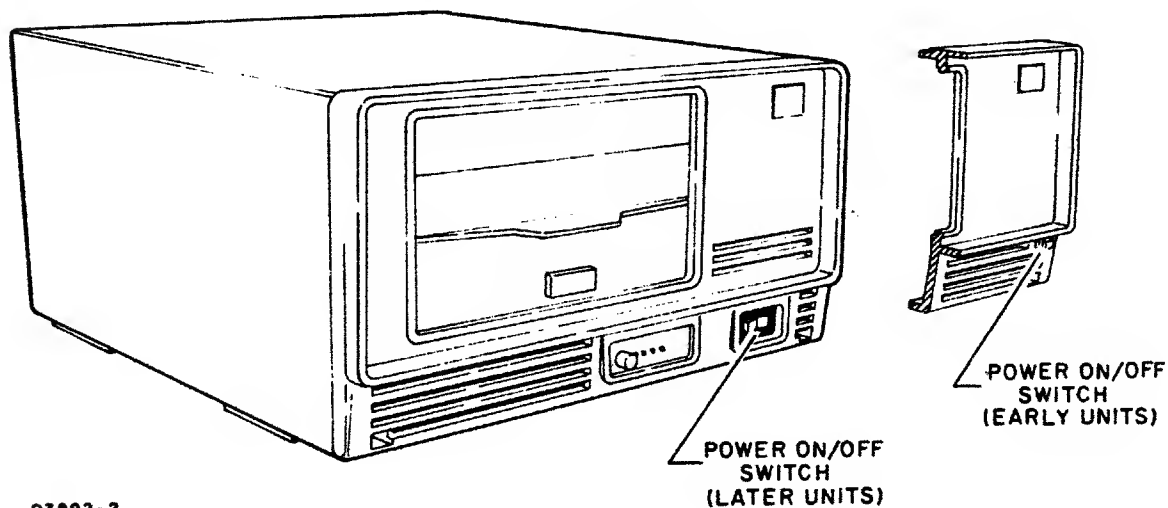

Figure 6B-1. Power On/Off Switch Location
1. First apply power to terminal. Then apply power to disk subsystem by pulling forward on Power On/Off switch connecting rod (early units) or by pressing Power ON/OFF switch to ON position (later units). See figure 6B-1.